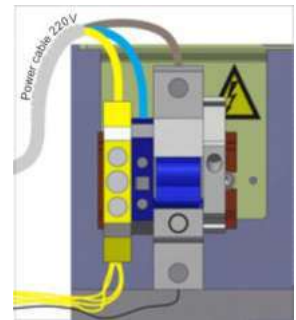
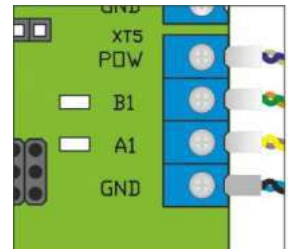

Fig.22– Connection of power supply cable
Fig.23 – Connection the communication cable with control panel to terminals
- 5 install a reader if needed (see Fig.23);
- a) Power supply cable ~220 V to be connected (Fig.22):
- Neutral (N) to be connected to terminal ~220V(N);
- Earth (PE) to be connected to earthing terminal (PE).
- b) Control desk link cable to be connected to terminals (Fig.23):
- d) Proximity card readers to be installed, if access control system (ACS) is available (Fig.23).